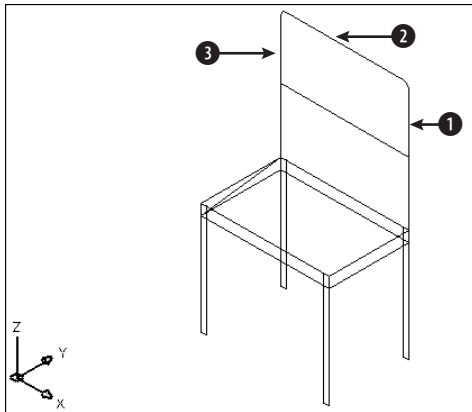

Figure 21-10: A wireframe model of a chair
8. At the `Select first object` or `[Polyline/Radius/Trim/multiple]:` prompt, pick ❶ in Figure 21-10. At the `Select second object:` prompt, pick ❷.
9. Repeat the `FILLET` command and pick ❷ and ❸ for the two lines.
10. Save the drawing of the chair. It should look like Figure 21-10.
Wireframes have a number of limitations. In Figure 21-10, the chair you drew in the previous exercise, you can see the back leg through the seat of the chair. Also, creating the detail of a real chair would be tedious if you were to use individual lines or 3D polylines. Finally, wireframes don't have any surface or solid properties. You can't display them in any realistic fashion or calculate properties, such as area, mass, and so on.